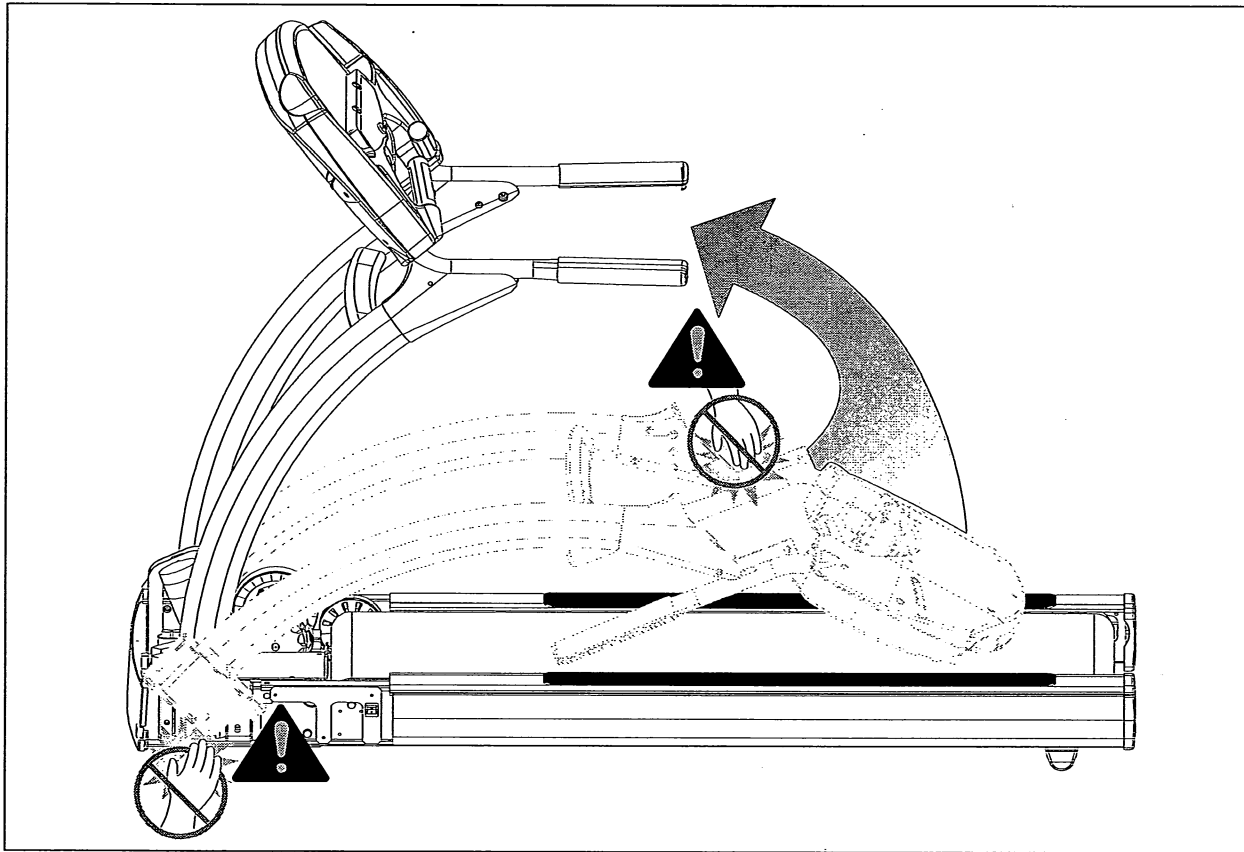

Figure 3
! CAUTION: *Do not pinch your hands or other body parts while pivoting the treadmill. See Figure 3.*
- C. Raise the console and uprights into position (they will pivot into place). **NOTE:** *Confirm that no cables are pinched while raising the unit. See Figure 3.*